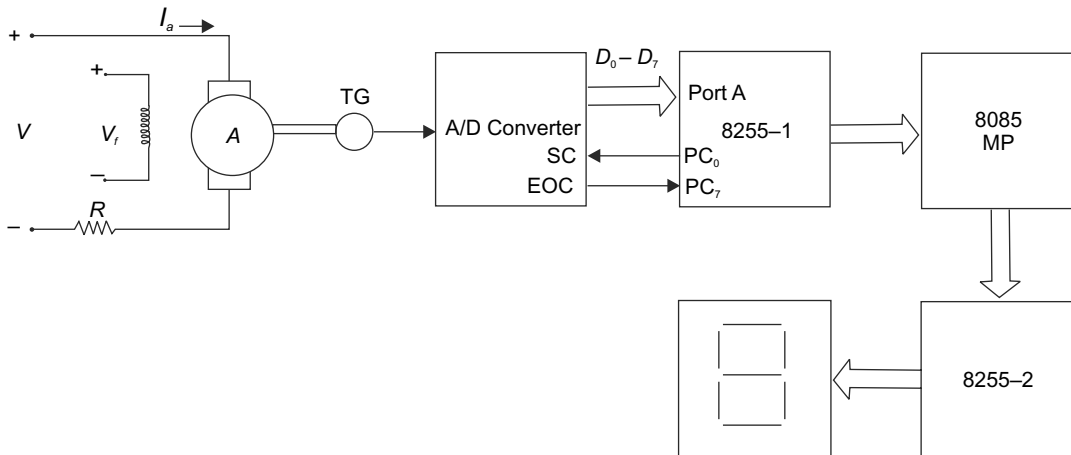

Fig. 10.58 Schematic block diagram of speed measurement
Figure 10.58 shows the microprocessor-based speed measurement. A tachogenerator is coupled at the shaft of the motor and generates a voltage proportional to the speed. The output of the tachogenerator (TG) used in this measurement scheme is 0 to 5 volts dc for speed variation of 0 to 1500 RPM. The output voltage is connected to ADC 0808 for analog-to-digital conversion. The output of the A/D converter is applied to Port A of 8255-1. Seven-segment display units are connected to Port A and Port B of 8255-2. The control word for both 8255-1 is 98H and 8255-2 is 80H. The look-up table consists of the hex code of techo-generator voltage and its corresponding speed in rpm. The microprocessor reads the digital output of the A/D converter for different speeds of the motor. After that, the microprocessor measures the speed using a look-up table and displays the speed of the motor in a seven-segment display.